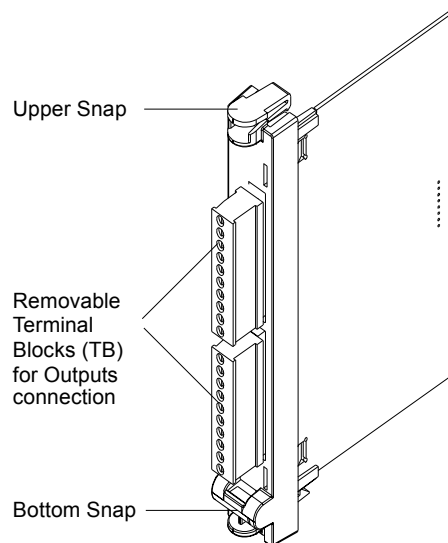

Figure 39
The 4 Analog Outputs (AO) module (see Figure 39) provides 4 optically isolated analog channels for controlling user devices.